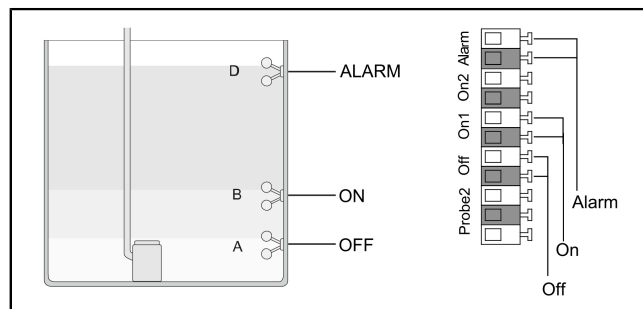
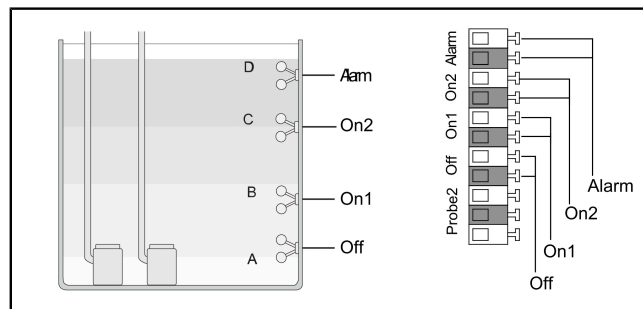

Fig. 3: Mono float switch (non-ATEX)
Fig. 4: Duo float switch (non-ATEX)
- Pull out blind plugs (1).
- Connect the cable ends of the float switches to the terminals shown. (see "Fig. 3: Mono float switch (non-ATEX)", 34 page + see "Fig. 4: Duo float switch (non-ATEX)", 34 page)